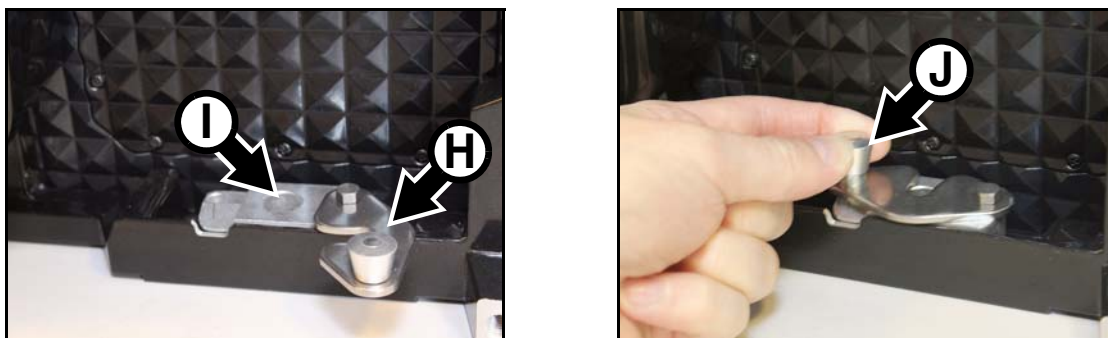

**Figure 28: Closing locking plates in Single Header**
5. See Figure 28. While supporting the panel, slide the locking plates **D** in the header *towards* the suspension eye **E** so that the locking plates engage in the grooves in the vertical connection posts **A**. Make sure that the locking plate knobs **F** click into the locked position so that the locking plates are no longer able to slide from side to side. Check that both locking plates are now latched onto the vertical connection posts.